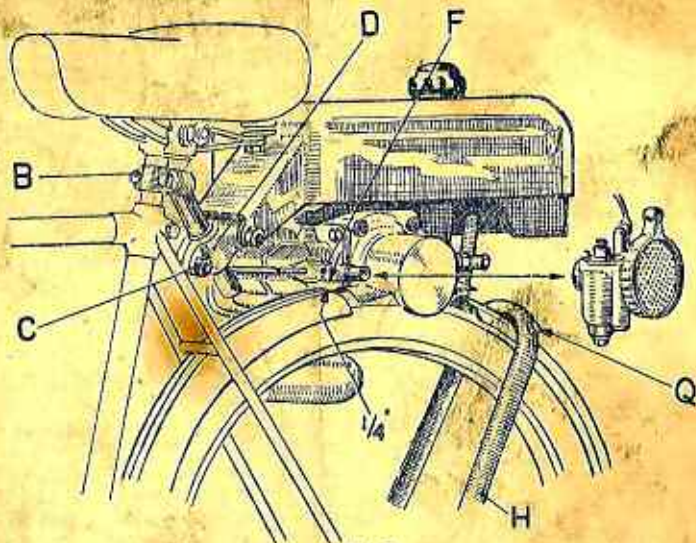

Fig. 3
- (4) Now replace the unit as before and the roller will rest on the tyre. Move again the sliding hinge "D" to bring the tank afresh into a horizontal position. Make sure now that the cylinder fins and the inlet tube are at least $\frac{1}{2}$ in. clear of the mudguard. If the clearance is less, it is necessary to cut away the sections of the mudguard which may endanger the free movement of the engine. (Fig. 3.)
- (5) Now look at the bicycle from the rear. Make sure that the tank top is parallel to the spindle of the rear wheel of the bicycle and that the roller rests well on the middle of the tyre.
- (6) Now tighten the clamp bolts "B" and sliding hinge bolts "C" (Fig. 3).